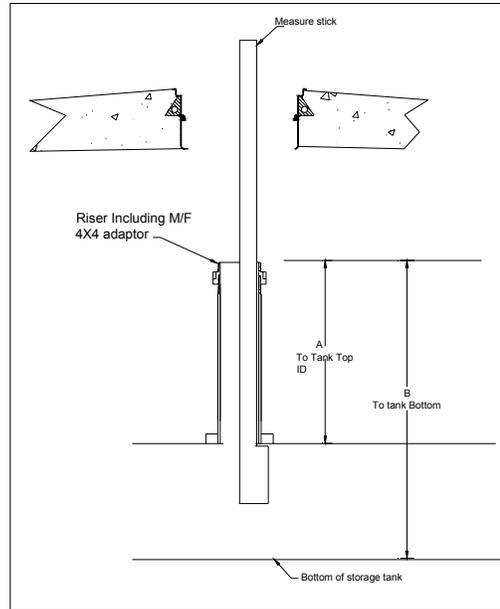

Figure 1
NO Measure from the top of the M/F 4 X 4 Adaptor to the inside, top lip, of the storage tank, measurement (A) (see Figure 1).
Install the PHIL-TITE M/F 4 X 4 adaptor on the tank riser (Refer to the Installation Instructions Supplied). Insert the 61SO-PT measuring stick through the riser pipe and hook it under the inside of the tank in the lengthwise direction. Mark the measuring stick at the top of the PHIL-TITE M/F4 X 4 Adaptor (See Figure 1 & 1A).
Using a tape measure, measure the distance from the top of the PHIL-TITE M/F 4 X 4 Adaptor to the inside top lip of the tank (Dim "A"). Measure from the top of the PHIL-TITE M/F 4 X 4 Adaptor to the bottom of the tank (Dim. "B"). See Figure 1. These results will assist in determining proper position.
Measuring from the underside of the inlet tube flange, mark the overall length of the drop tube a distance of (B) minus 6" or as per local codes or requirements. Determine dimension (B) from the measurements taken in Step 3, Figure 1 (Top of the PHIL-TITE M/F 4 X 4 Adaptor to the bottom of the tank). Saw off the excess tube at a 45-degree angle